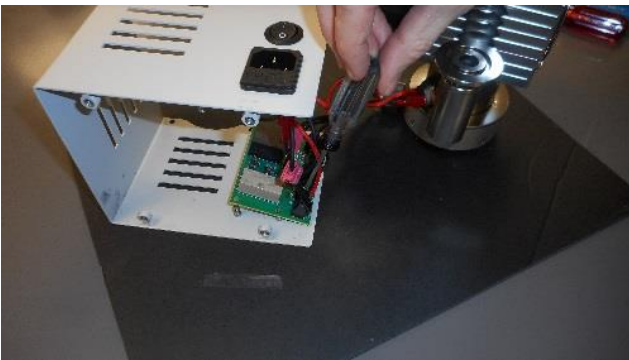

Fig 3
7. With the small Phillips screw driver, remove the red heater lead from the board terminal block. See Fig 3.